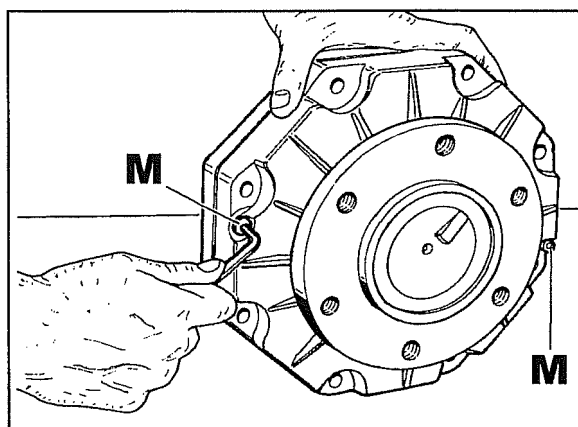
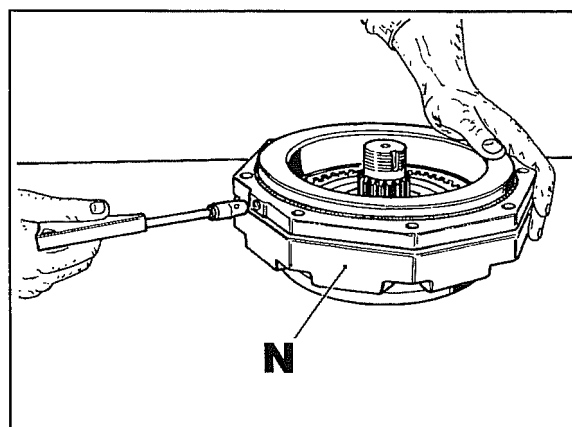

Fig. 24
Fig. 25
- 34 Turn the brake ass'y over and remove screws **M** fig. 24. Turn the brake ass'y over again and use a compressor to blow (carefully) air into the piston supply orifice to separate the brake from flange **N** as shown in fig. 25.